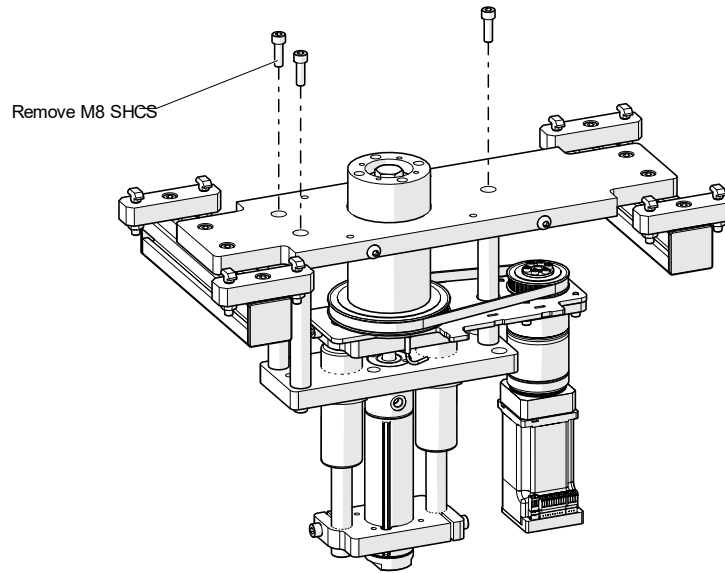

Figure 11: Removing M8 SHCS
Step 2: Remove the M8 SHCS that hold the three linear rods to the mounting plate shown in Figure 11.